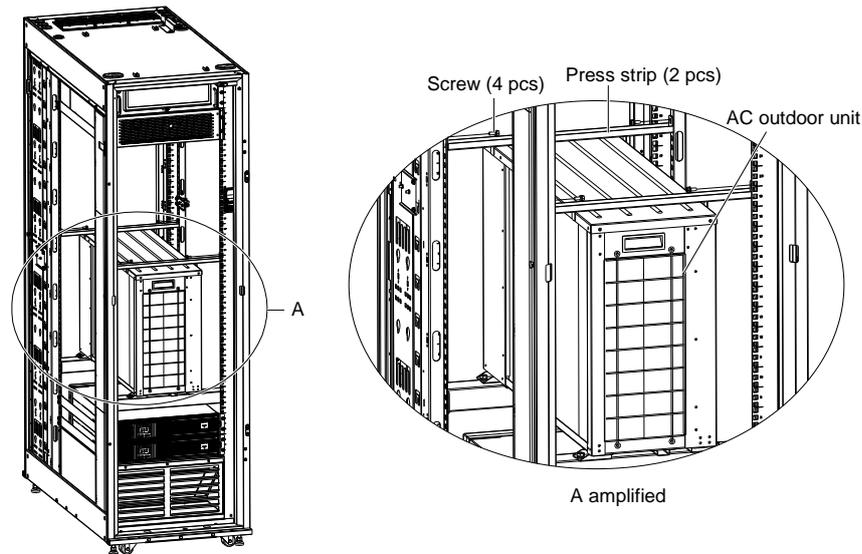

Figure 3-3 Removing the press strips of outdoor unit
1. Remove the four screws on the press strips of outdoor unit, and remove the two press strips, as shown in Figure 3-3.
1. In Figure 3-3, the two metal press strips on top of the outdoor unit can be used as horizontal cable organizers at back end of the cabinet.